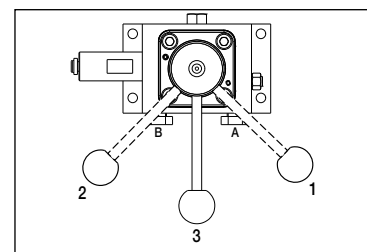

Figure 8
(See Figure 8)
4. Rotate the control valve handle to the neutral/hold ("3") position (see Figure 8 for valve positions).